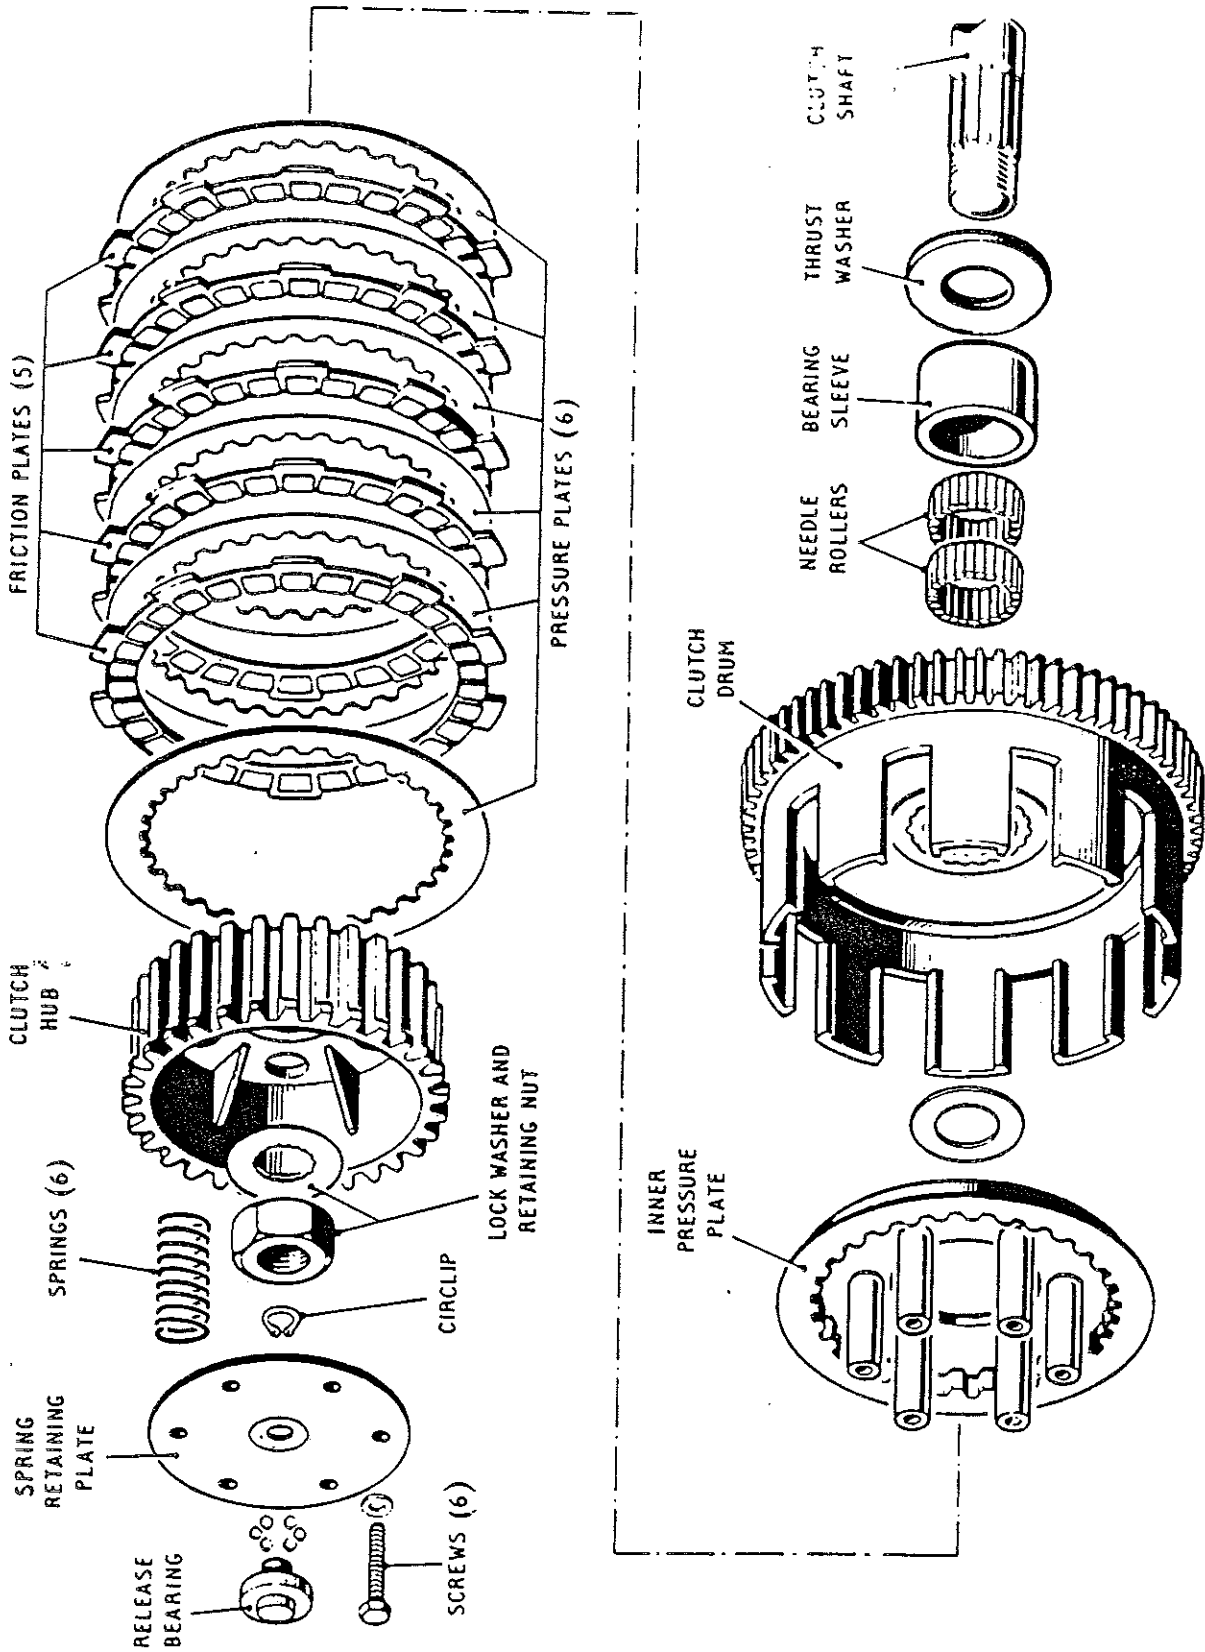

FIG. 3.1 CLUTCH ASSEMBLY EXPLODED VIEW
2. The clutch hub is splined to the clutch shaft and held in place by splined lock washer and nut. The outside of the hub is splined to take the pressure plates. There are holes in the hub through which the posts on the inner pressure plate protrude. (See Fig. 3.1).
4. The inner pressure plate is internally splined and geared to the clutch hub (Fig. 3.1). The posts on the inner pressure plate protrude through the clutch hub with springs positioned over them (Fig. 3.2), the posts are internally threaded. Screws secure the plate to the top of the posts holding the springs under tension. In this position the springs force the retaining plate away from the hub (Fig. 3.2), which draws the inner pressure plate to the hub, and so clamps all the plates together.